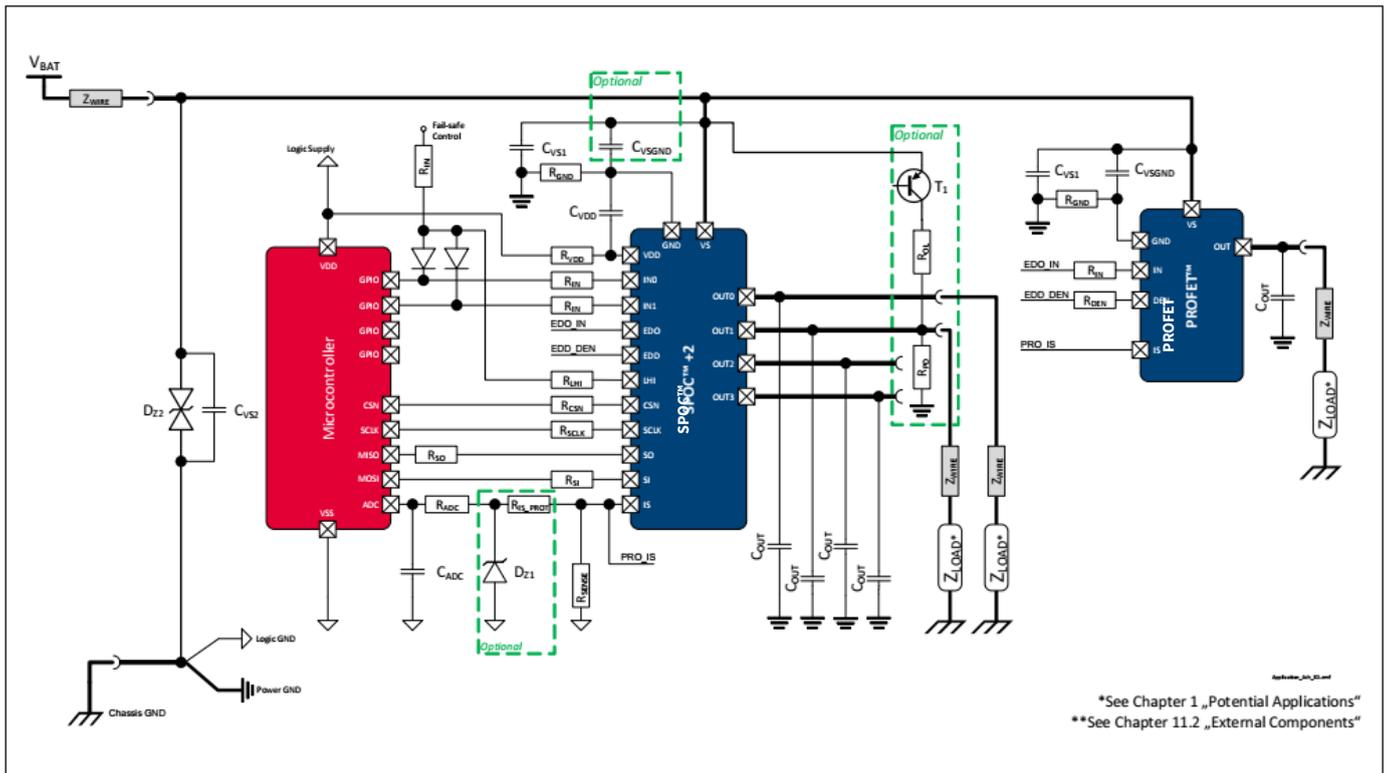

Figure 46 Application Diagram
1.10 , 2021-03-23	General: Datasheet quality improved General: updated (ReverSave™ → ReverseON) General: updated (channel description) Icon “PRO-SIL™ ISO 26262-ready” added to front page Chapter 1 updated (Package description) Chapter 1 updated (Potential Applications updated and Product Validation added) Harmonization of Application Diagram (Figure 1 , Figure 46) P_4.4.0.15, P_4.4.0.16 updated (Typ. value and Max. value) P_6.4.0.10 updated (Note or Test Condition) P_6.4.1.5 updated (Max. value updated and footnote added) P_6.5.31.2 added P_9.6.0.6 updated parameter name P_9.6.0.17 added P_9.6.2.11 footnote removed Figure 14 and Figure 16 updated Figure 28 and Figure 29 updated Figure 33 updated Figure 37 and Figure 38 updated Chapter 10.4 typical value for VDD harmonized Chapter 11 updated (figures and descriptions)